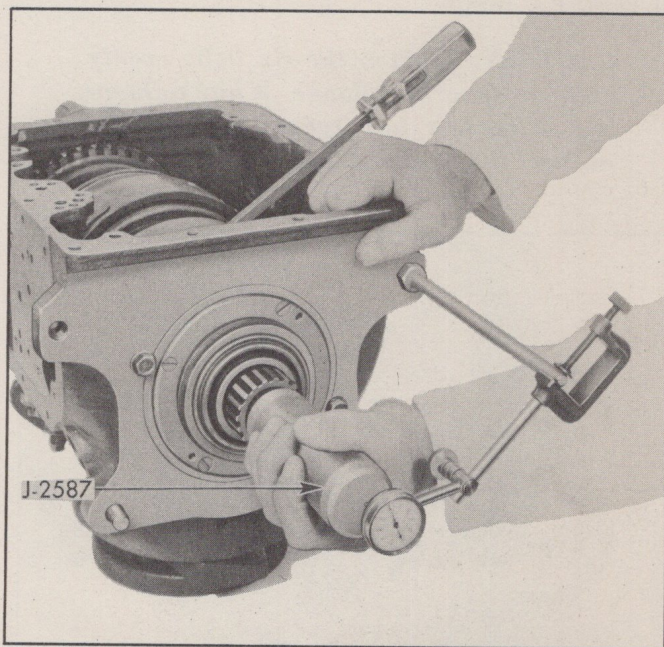

Fig. 298—Checking Main Shaft End Play
2. Set up dial indicator on transmission case using tool, J-1465 (Fig. 298).
4. Move main shaft back and forth (Fig. 298). End clearance should be .004" to .015". Be sure to get just float.